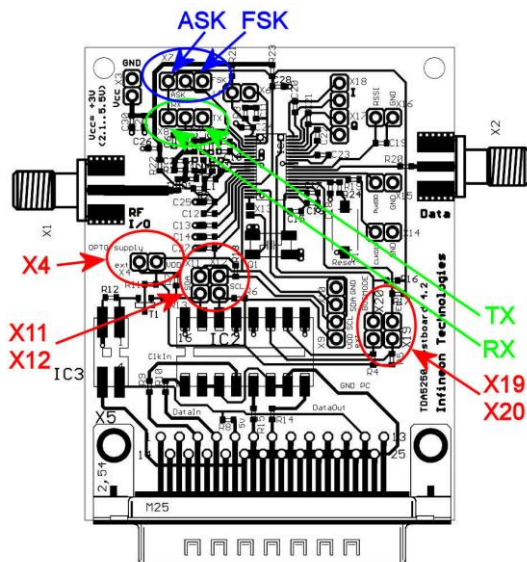
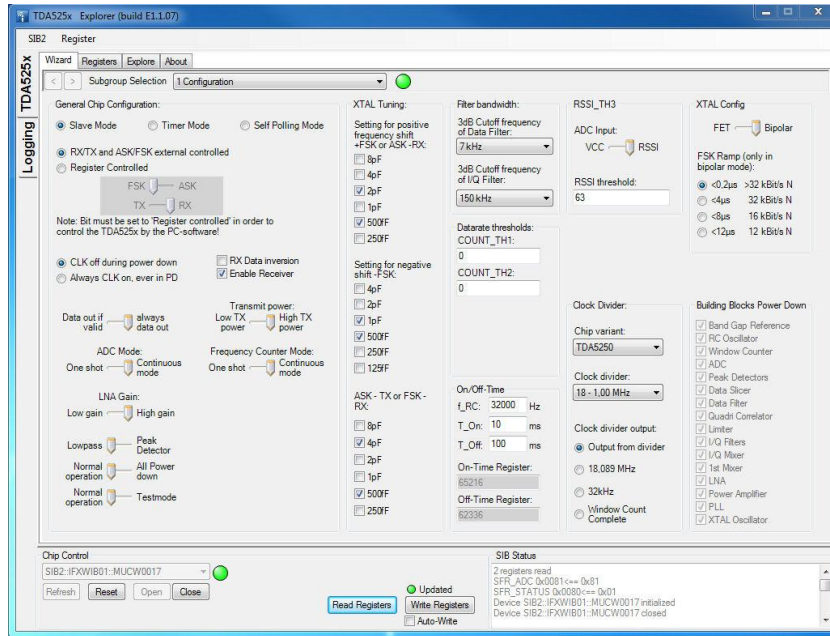
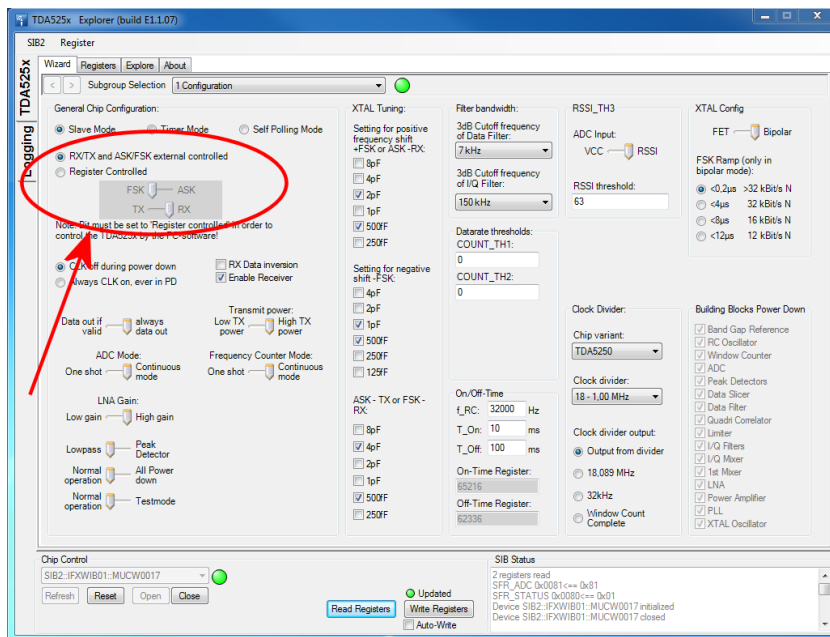
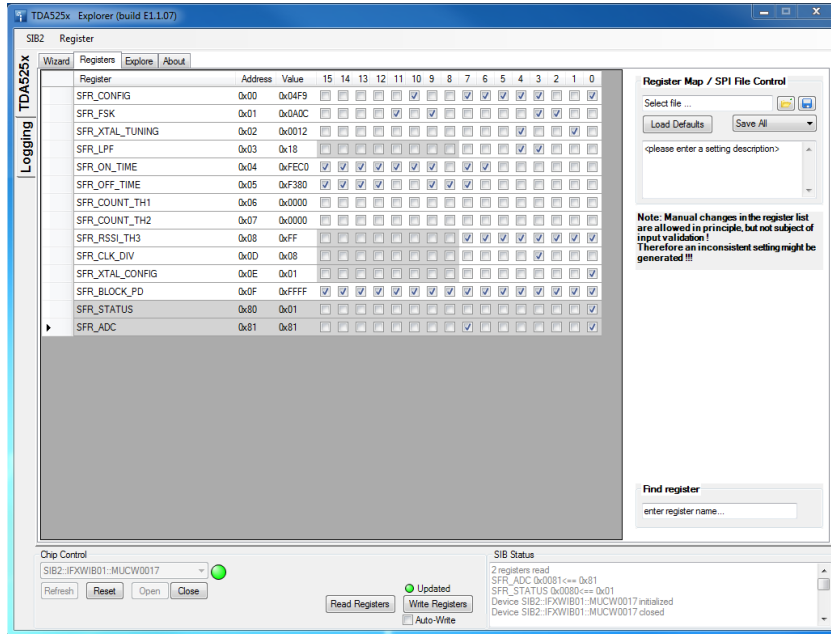

Figure 2: Jumpers
Figure 7: TDA525X Explorer, Wizard tab
Figure 8: RX/TX and ASK/FSK external controlled or register controlled
Figure 9: TDA525X Explorer, Register tab
- Leave jumper X4, X11, X12, X19 and X20 open (see Figure 2)
- Select either RX-mode or TX-mode by setting the jumper of the RX/TX-multi-pin connector (X8) accordingly (see Figure 2 below or Figure 4-4 of the respective Data-Sheet).
- Select either ASK or FSK by setting the jumper of the ASK/FSK-multi-pin connector (X7) accordingly (see Figure 2 below or Figure 4-4 of the respective Data-Sheet).
- Now you are ready to configure the **TDA525X**: Either by changing the settings in the **Wizard**-tab of the **TDA525X Explorer** (see Figure 7), or by changing the bit values of each register directly in the **Registers**-tab (see Figure 9). **CAUTION:** If you choose RX/TX and ASK/FSK “Register Controlled” (see Figure 8) it is strongly recommend to remove the jumper of the RX/TX-multi-pin connector and ASK/FSK-multi-pin connector to avoid conflicting hardware and software settings and harming of the **TDA525X!**
- Close jumper X4, X11, X12, X19 and X20 (see Figure 2).
- It is strongly recommended to remove the jumper of the RX/TX-multi-pin connector and ASK/FSK-multi-pin connector before you select “RX/TX and ASK/FSK Register Controlled” (see 0) to avoid conflicting hardware and software settings and harming of the **TDA525X**! If you select “RX/TX and ASK/FSK external controlled” (see Figure 8) you have to set the jumper of the ASK/FSK- and RX/TX-multi-pin connector according the desired mode (see Figure 2).